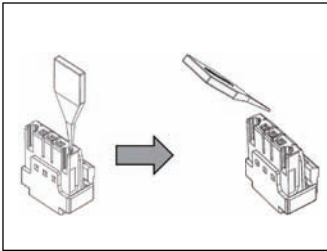

fig.3
- (3) Tilt the holding part and snap off the tip of coding key. (fig.3)